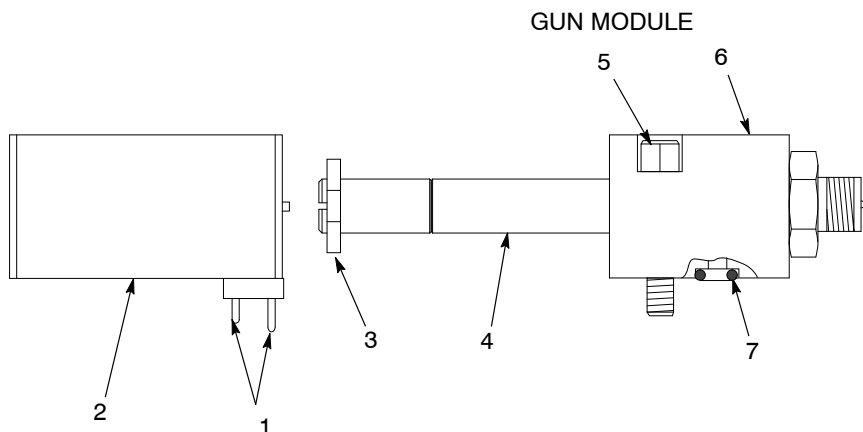

Figure 7 Replacing the Gun Module
1. See Figure 7. Remove the gun from the manifold by unscrewing the two socket-head cap screws (5) from the valve body (6) and unplugging the coil (2) contact pins (1) from the manifold.
2. Remove the lock nut (4) from the guide tube (3), then slide the coil assembly (1) off the guide tube.
3. Remove the lock nut from the new module and install it through the coil. Install the lock nut (3) finger tight.
4. Lubricate the O-ring (7) shipped with the module with O-ring lubricant and install it into the groove around the fluid inlet port in the bottom of the gun body.
5. Install the gun on the manifold and secure it with the two socket-head screws (5) included in the module kit. Tighten the lock nut (3) securely.